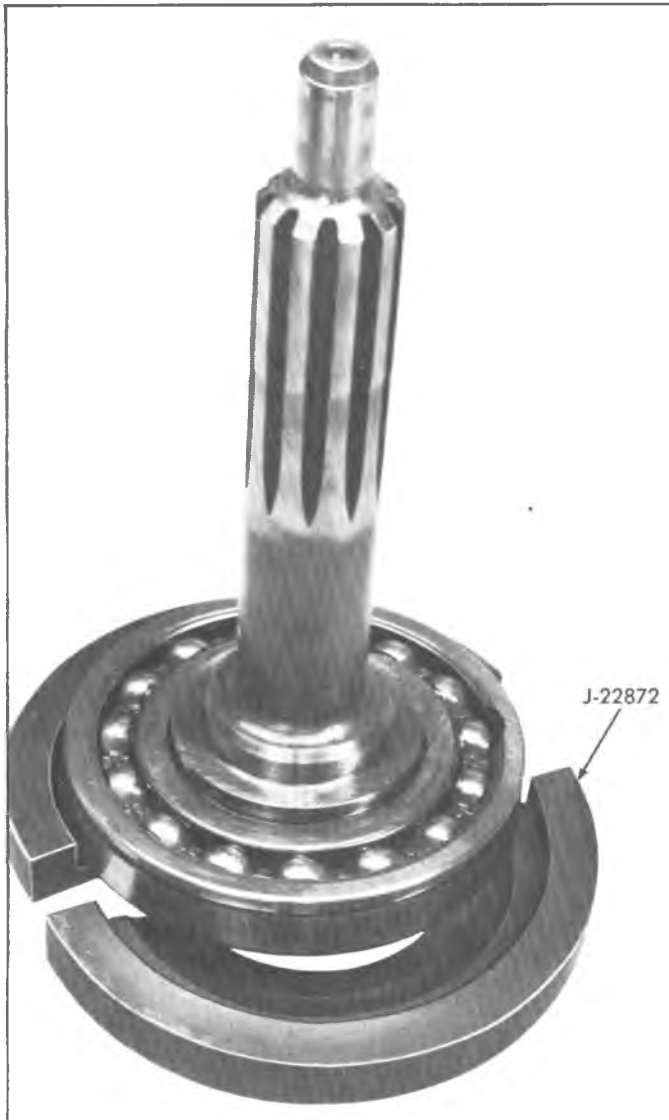
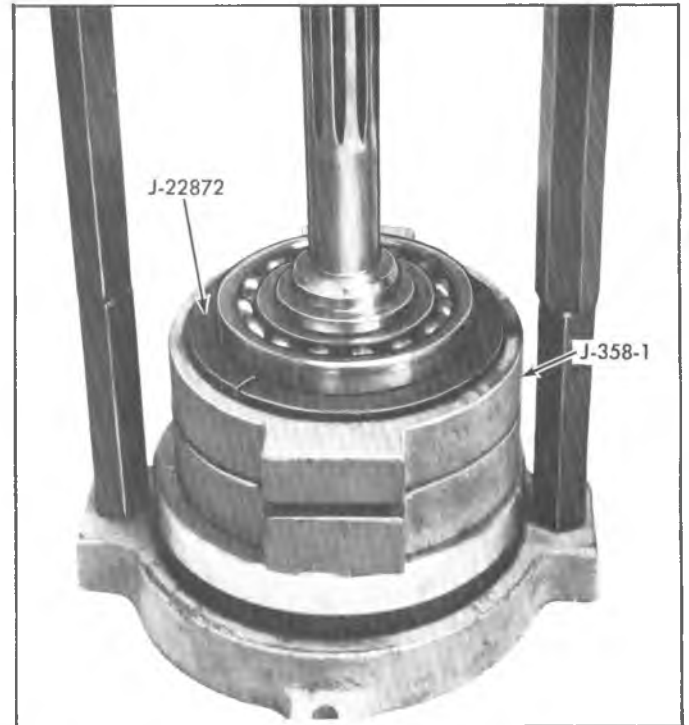

Fig. 9Q--Positioning Tool J-22872 to Drive Gear
Fig. 10Q--Removing Drive Gear Bearing
1. Remove mainshaft pilot bearing rollers (17) from drive gear if not already removed, and remove roller retainer. Do not remove snap ring on inside of drive gear.
3. To remove bearing, position Tool J-22872 to the bearing (fig. 9Q) and using an arbor press and Tool J-0358 press gear and shaft out of bearing (fig. 10Q).